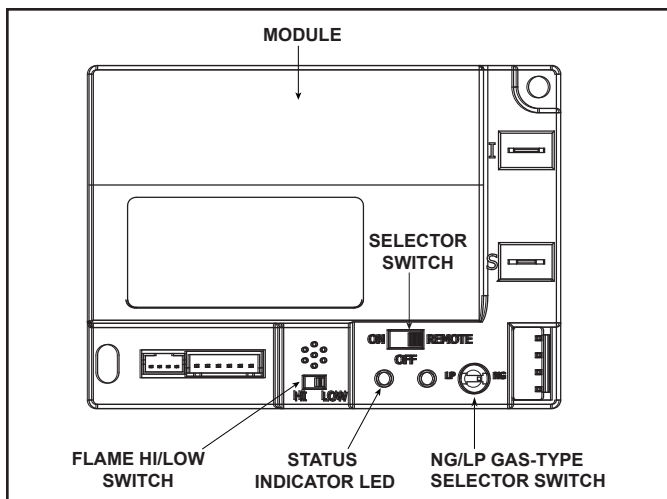

Figure 3.5 Control Module
2. Locate the battery tray and insert four AA cell batteries. Battery polarity must be correct or module damage will occur. See Figure 3.5. A complete wiring diagram is included in the Electrical section of the appliance Installation Manual.
- Slide the ON/REMOTE/OFF selector switch to the ON position. See Figure 3.5.
1. The control module has an ON/OFF/REMOTE selector switch that must be set. See Figure 3.5.
2. If using a wired wall switch with the module in REMOTE mode, the flame output can be adjusted with the HI/LO selector switch on the module. See Figure 3.5. Note that the flame HI/LO selector switch will become inactive once an optional remote control (RC300) is programmed to the control module. Note that the control module will always ignite the fireplace on HI and remain so for the initial 10 seconds of operation. If the HI/LO is switched to the LO position, the flame output will automatically drop to the lowest setting after the flame has been established for 10 sec. After this 10 second period, the flame can be adjusted from HI to LO with the switch.
- Locate the module selector switch. (See Figure 3.5).
- Wait five (5) minutes to allow possible accumulated gas to clear.